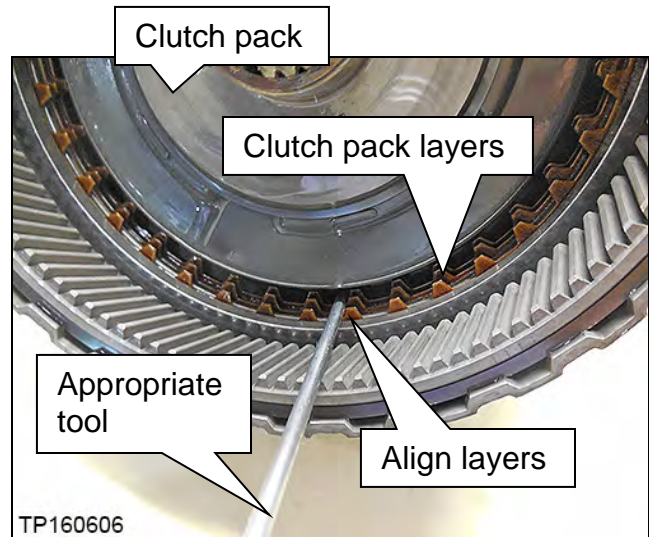

Figure 4M
- Bottom of the clutch pack shown in Figure 4M.